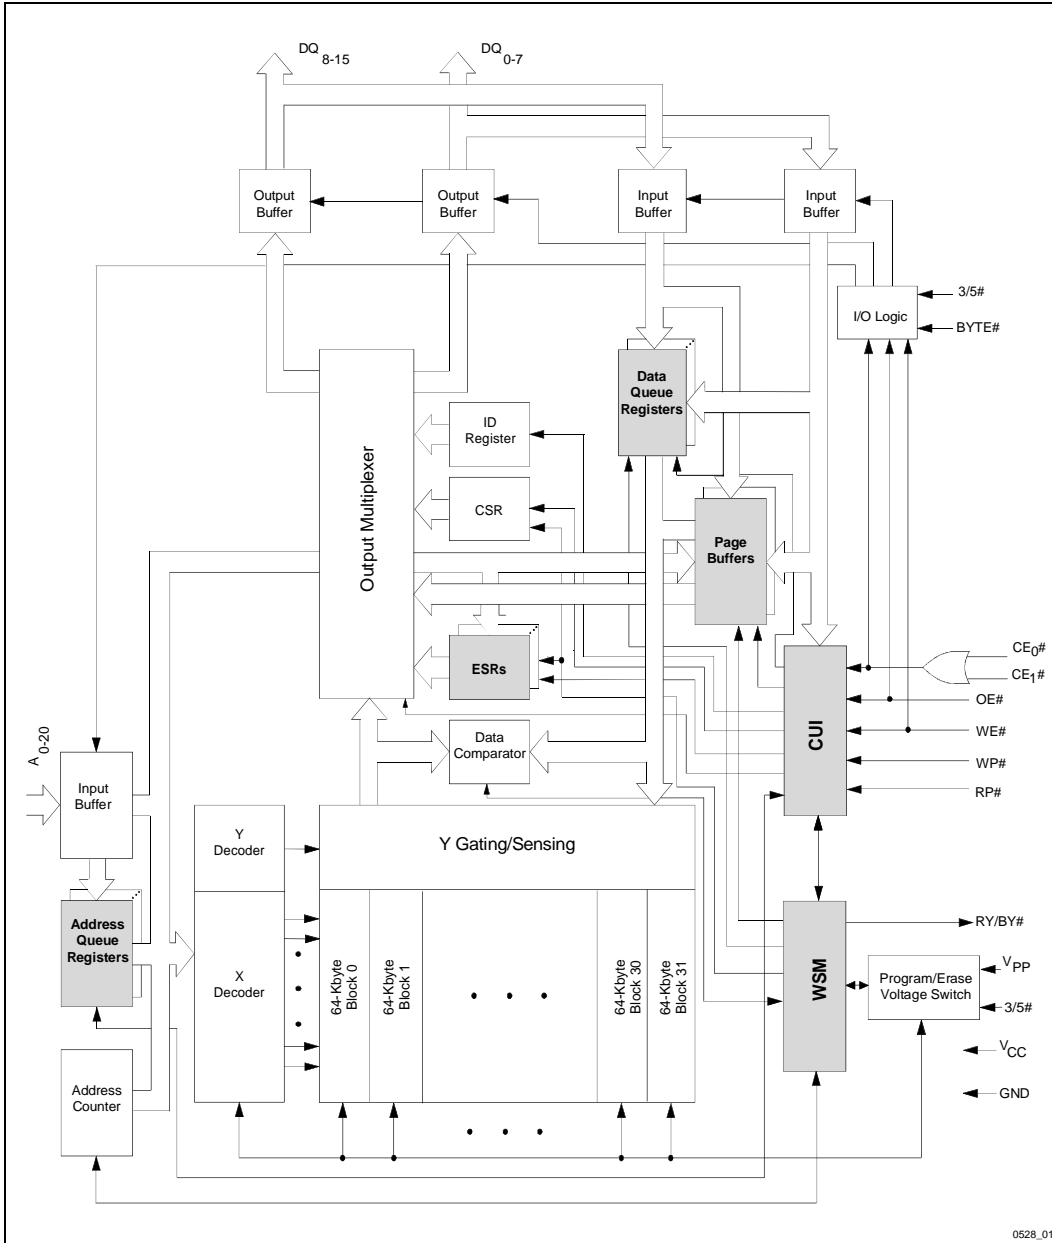
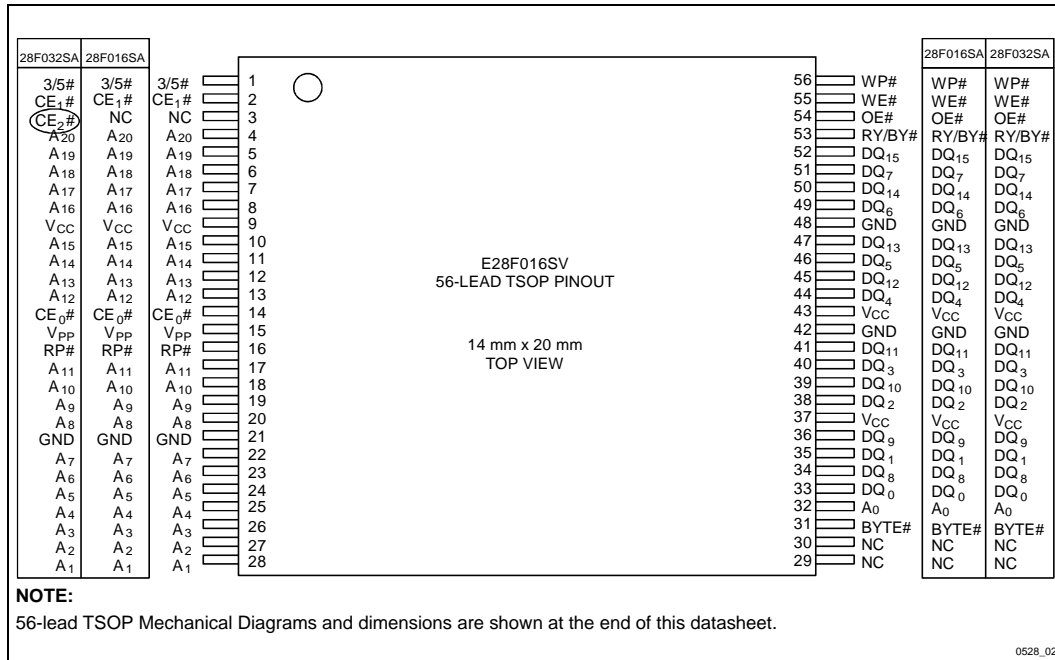

Figure 1. 28F016SV Block Diagram
Figure 2. 28F016SV 56-Lead TSOP Pinout Configuration Shows Compatibility with 28F016SA/28F032SA
| -004 | <p>Added 3/5# pin to Block Diagram (Figure 1), Pinout Configurations (Figures 2 and 3), Product Overview (Section 1.1) and Lead Descriptions (Section 2.1)</p> <p>Added 3/5# pin to Test Conditions of I_{CCS} Specifications</p> <p>Added 3/5# pin (Y) to Timing Nomenclature (Section 5.5)</p> <p>Increased t_{PHQV} Specifications at 5V V_{CC} to 400 ns for E28F016SV 065 devices and 480 ns for E28F106SV 070 devices.</p> <p>Modified Power-Up and Reset Timings (Section 5.9) to include 3/5# pin: Removed t_{5VPH} and t_{3VPH} specifications; Added t_{PLYL}, t_{PLYH}, t_{YLPH}, and t_{YHPH} specifications</p> <p>Added t_{PHL3} and t_{PHL5} specifications to Power-Up and Reset Timings (Section 5.9)</p> <p>Corrected TSOP Mechanical Specification A₁ from 0.50 mm to 0.050 mm (Section 6.0)</p> <p>Corrected SSOP Mechanical Spec. B (max) from 0.20 mm to 0.40 mm (Section 6.0)</p> <p>Minor cosmetic changes throughout document.</p> |
A significant 28F016SV change occurred between datasheet revisions 290528-003 and 290528-004. This change centers around the addition of a 3/5# pin to the device's pinout configuration. Figures 2 and 3 show the 3/5# pin assignment for TSOP and SSOP Type 1 packages. Intel recommends that all customers obtain the latest revisions of 28F016SV documentation.
order address and address A_0 is not used (don't care). A device block diagram is shown in Figure 1.
The 28F016SV 56-lead TSOP and 56-lead SSOP Type I pinout configurations are shown in Figures 2 and 3.